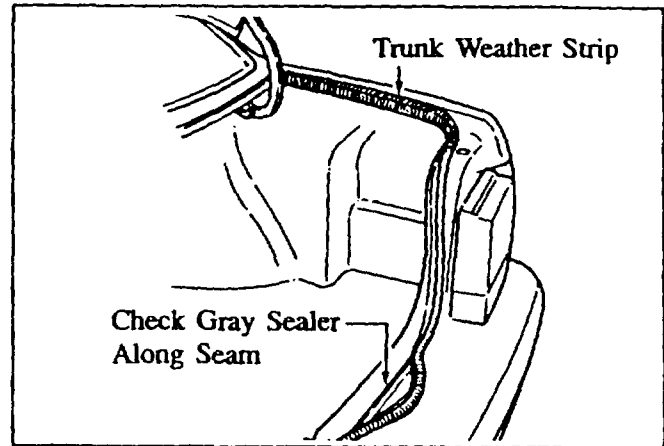

Figure 22: Checking Grey Sealer Under Trunk Weatherstrip
1. If water is running down over the interior trunk end-panel trim or over/under the trunk weatherstrip, pull up the trunk weatherstrip and check grey sealer material and any body seams near the linkage area. Confirm that grey sealer covers the top of the flange in one solid strip. Check for pin holes, missing sealer or burrs. **Figure 21 and Figure 22.**